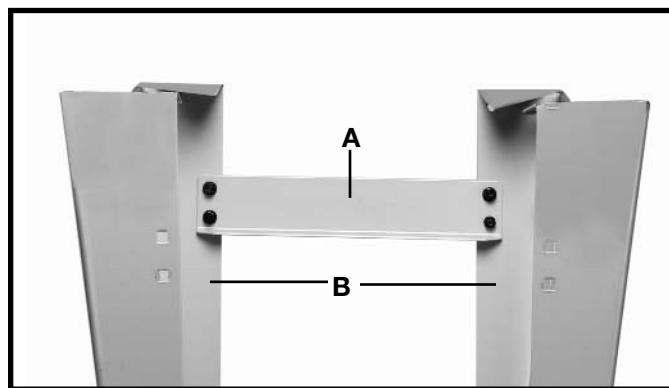

Fig. 14
14. Align the four holes in the short brace (A) Fig. 14, with the four holes in the two legs (B).